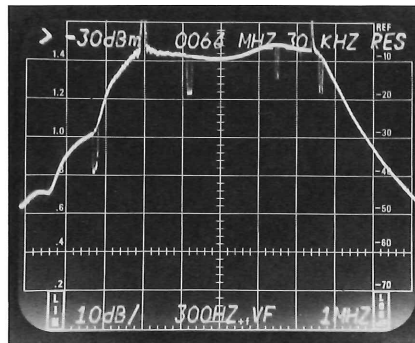

Figure 6-11. Swept response with markers on 7L14 display.
2. To use the 7L14 with the 1405, the z-axis output of the 1405 is connected to the VIDEO OUT on the 7L14 (using a Tek 175-1175-00 cable). The displayed waveform will show a downward deflection at the marker frequency as shown in figure 6-11. Position the PEAK/AVERAGE cursor to the top of the display screen.